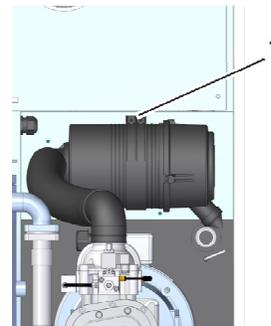

Fig. 33: Unfastening the clamp on the intake filter
- 5 Use a wrench to unfasten the cover of air/oil separator tank and remove the fine separator (Fig. 33/1).
- 6 Remove old gasket remains from the fine separator (Fig. 33/1).
- 8 Put the new fine separator (Fig. 33/1) into the air/oil separator tank.
- 9 Lock the cover of air/oil separator tank tight (Fig. 33/1) with a wrench.
3. Unfasten the intake filter (Fig. 33/1).